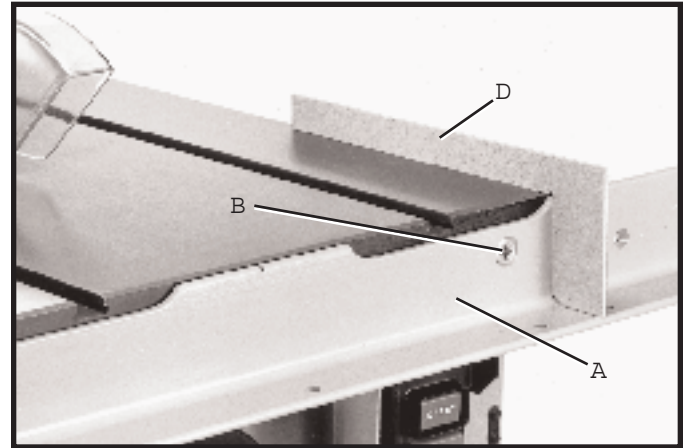

Fig. 6
3. Using the template (D) Figures 6 and 7, check and adjust front rail at both ends of the saw table as shown, to make sure rail (A) is level with table surface and tighten rail mounting hardware (B). IMPORTANT: Template (D) must be on saw table when checking, not on extension wing.